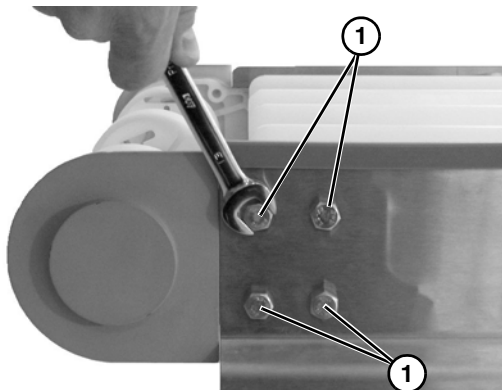

Figure 46
2. Remove four head plate bolts (**Figure 46, item 1**). Repeat on opposite side.